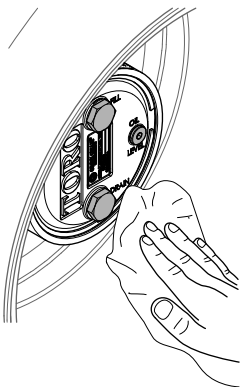

Figure 71
3. Wipe clean the planetary and brake housings (Figure 71).